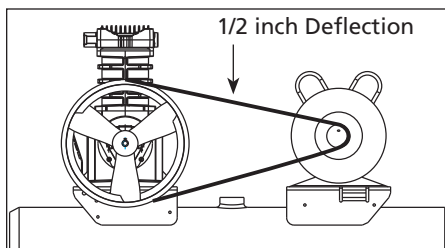

Figure 6
Belts will stretch in normal use. Properly adjusted, a 5-pound force applied to the belt between the motor pulley and the pump will deflect the belt about 1/2 inch (See Figure 6).
4. Adjust flywheel or motor pulley so that the belt runs straight (See Figure 6).